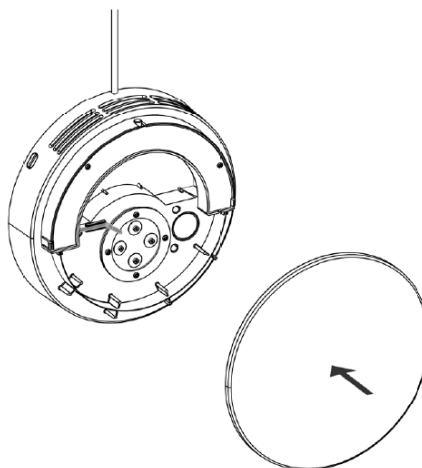

Figure 19 - Reattach the internal cover
7. Reattach the internal cover, see Figure 19 below.